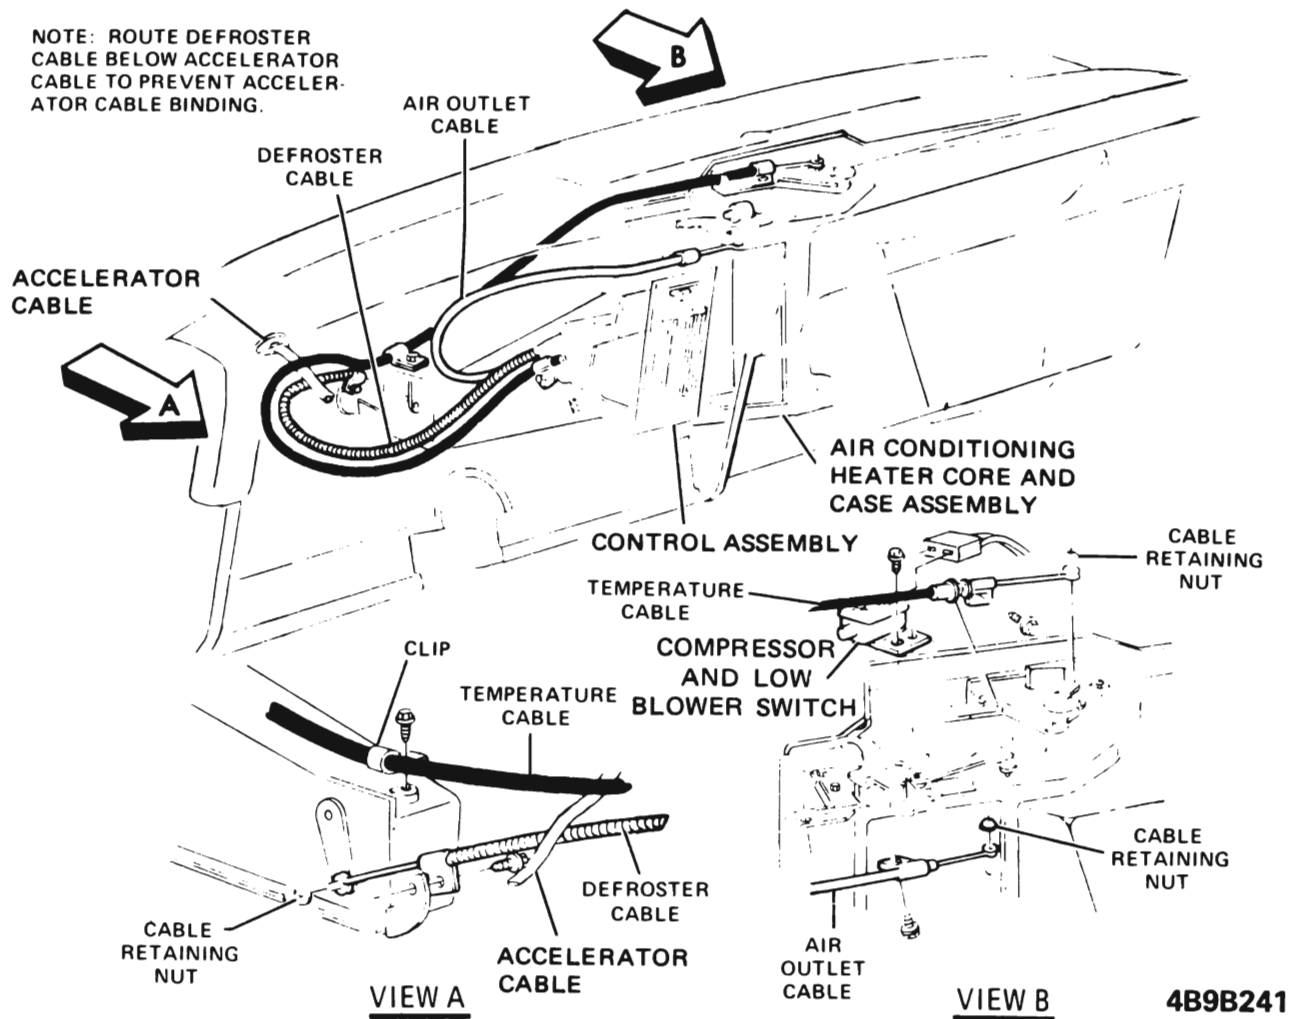

Figure 9B-155 A/C Control Cable Routing - X Series
Removal and replacement of air distribution components can be performed by referring to Figure 9B-16 for duct and outlet installation.
1. Remove kick panel diaphragm cover. See Figure 9B-163.